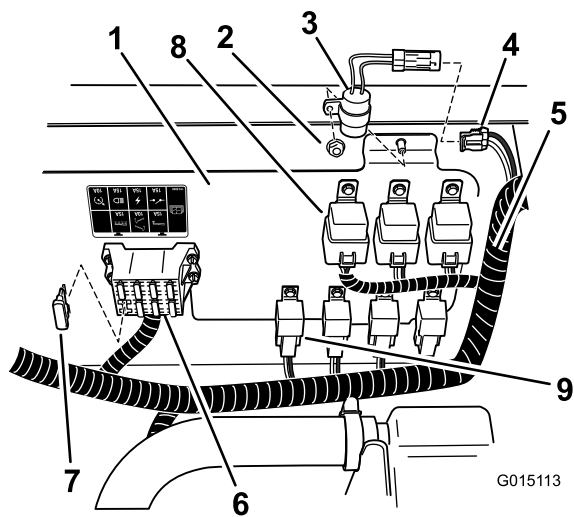
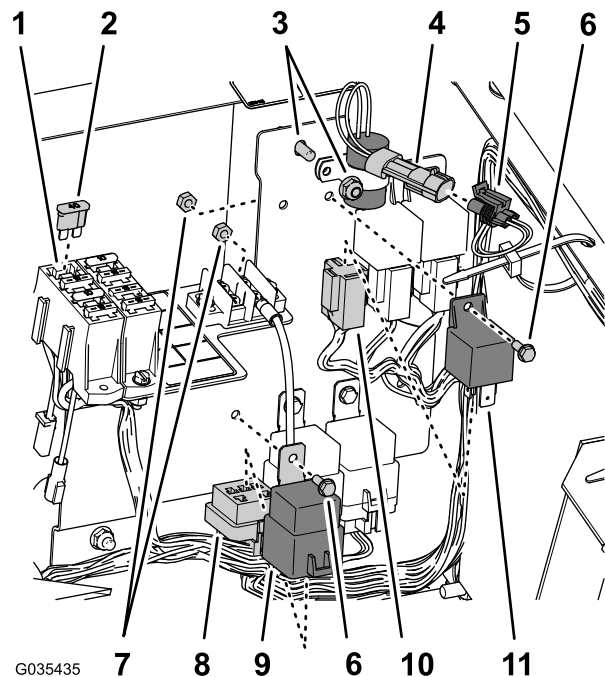
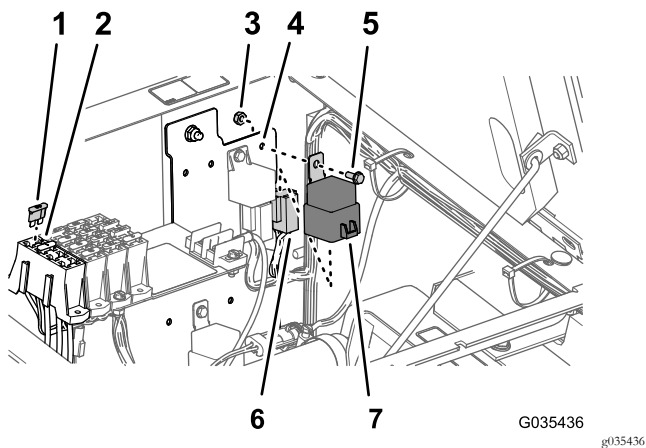

Figure 33
Figure 34
Figure 35
- A. Install the delay timer to the location shown in Figure 33 or Figure 34 with the locknut from the electrical panel.
- B. Connect the timer to the 2-socket connector labeled delay timer of the machine wire harness (Figure 33 or Figure 34).
3. Install a fuse (40 A) to the open slot in the fuse block as shown in Figure 33, Figure 34, or Figure 35.
4. Locate relay and power relay in line with the other relays of the same style, and mount them to the panel (Figure 33, Figure 34, or Figure 35) with the 2 flange-head bolts (#10-24 x 1/2 inch) and 2 locknut (#10-24).
5. Locate the 4-socket connector and the 5-socket connector on the main harness and connect them to the relay (4-pin) and power relay (5-pin) as shown in Figure 33, Figure 34, or Figure 35.